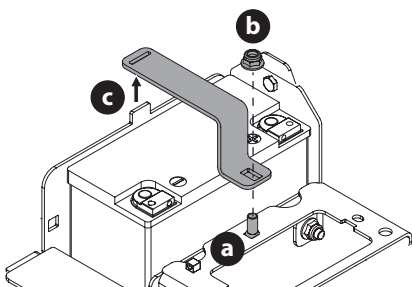

Fig. 39
4. Locate and hold the carriage bolt (a) at the front of the battery bracket (c) to prevent it from falling (Fig. 39).
5. Remove the hex lock nut (b) securing the battery bracket (c) in place. Save the carriage bolt and hex lock nut for later reinstallation (Fig. 39).
6. Lift the battery bracket (c) off the tab at the left side of the battery compartment and save for later reinstallation (Fig. 39).